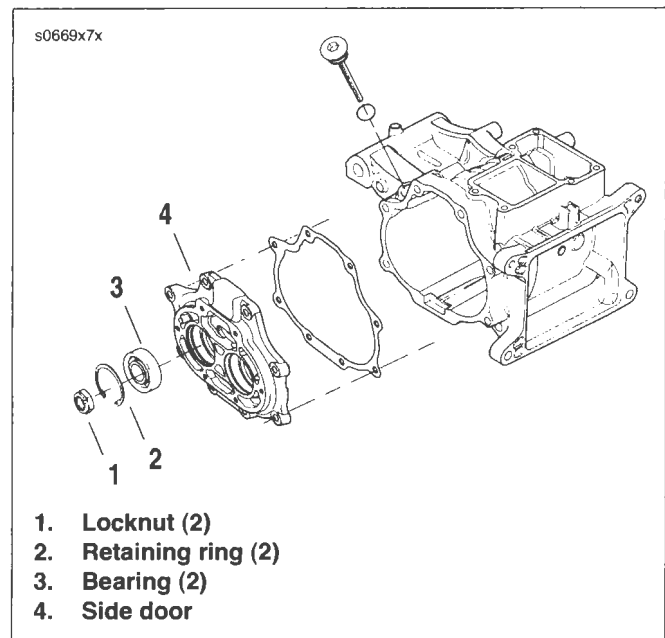

Figure 7-28. Side Door Bearings
1. See Figure 7-28. Remove the retaining rings (2) and press the bearings out of the side door.